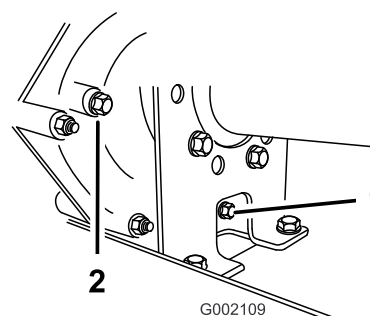
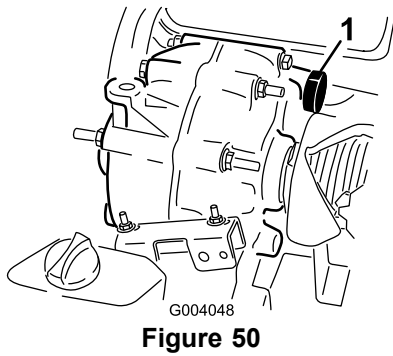

Figure 49
Figure 50
2. Wipe the area around the fill and drain plugs clean with a rag (Figure 49).
4. Remove the fill plug by rotating it counterclockwise (Figure 49).
5. Remove the drain plug by rotating it counterclockwise (Figure 49).
6. Install and tighten the drain plug and gasket into the drain-plug hole of the transmission (Figure 49).
7. Fill the reservoir (Figure 50) through the fill-plug hole with approximately 1.4 L (1-1/2 qt) of the specified oil or until the oil level in the transmission is even with the bottom of the threads. (Figure 49).
8. Install and tighten the fill plug and gasket into the fill-plug hole of the transmission (Figure 49).
10. Check the oil level and add more oil if the level is below the threads of the fill-plug hole (Figure 49).